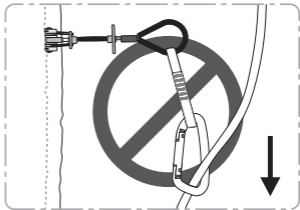

Figure 5
- Do not use the Basic Cam in shallow cracks, where the Basic Cam body can not be properly aligned with the expected load (see **figure 5**). The strength is lower in this situation, and also the device could slip out.